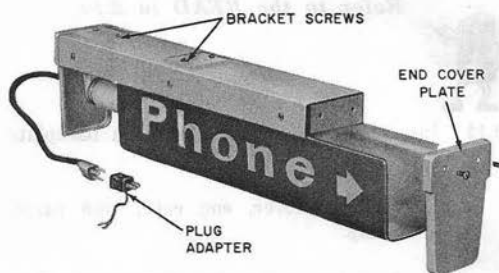

Fig. 11—KS-16422 Sign—Assembly of Parts
2.12 The four threaded holes on top of the unit (Fig. 11) are equipped with No. 8-32 by 7/16 BHM screws and No. 8 lockwashers. Use two screws to attach the unit to the mounting bracket and two to seal the holes not used.
2.13 Install F15T12/CW lamp as follows (Fig. 11).
A 3-wire grounded electrical receptacle is preferred; however, a 2-wire receptacle may be used with the use of a plug adapter (Fig. 11). If ground potential is not available at the receptacle, run a No. 14 AWG wire from the adapter to a suitable ground.